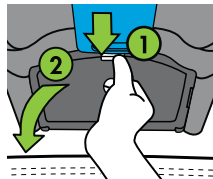

Figure 59
- Open UAS Bin Door by pressing and holding top of Lock Tab then rotating UAS Bin Door down, as shown in **Figure 59**.